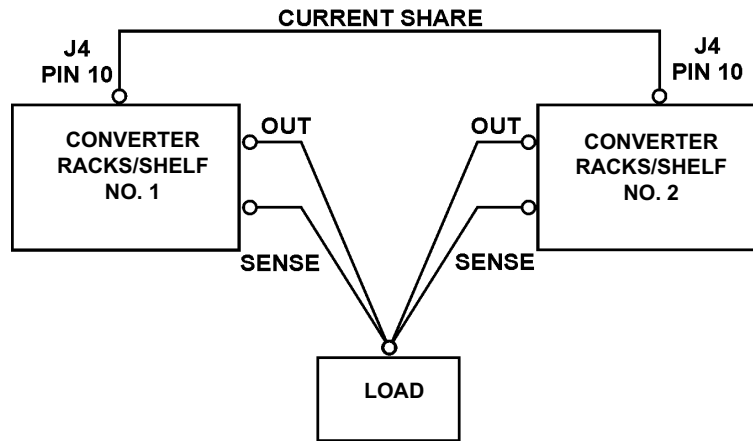

Figure 7. Parallel Connection of TPCMQ Rack/Shelves.
13.3 Multiple Parallel Shelf Operation. Multiple rack/shelves can also be operated in parallel by interconnecting their current share terminals (J4 Pin 10). The total power can be expanded by several times. In this case N+1 redundant operation is achieved by reserving one module of the total for redundancy. For example, if two full 19-inch rack/shelves are employed with a total of six converter modules, then for 5+1 redundancy the full load must be able to be carried by the output of five modules. In such applications each set of remote sense wires must be separately connected to the point of load. See Figure 7 for a simplified illustration of two converter rack/shelves connected in parallel.